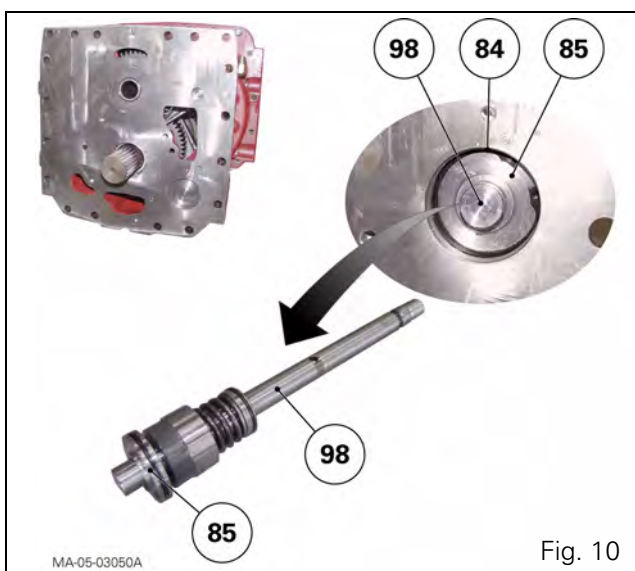

Fig. 10
10. Remove the circlip at the rear of the gearbox (84 Fig. 10).
11. Using a plastic hammer, remove the selector rail (98) towards the rear of the gearbox (Fig. 10).